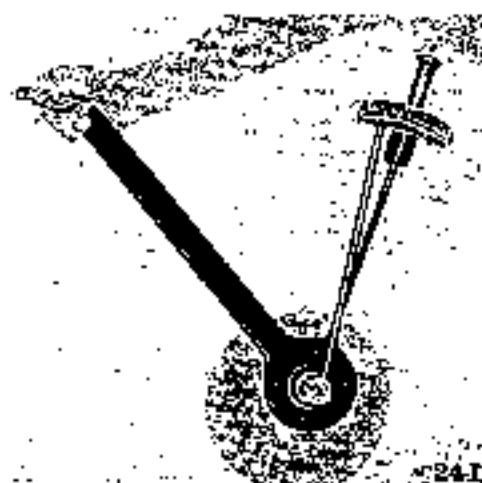

Fig. 7 Use of Drive Pinion Bearing Pre-load Gauge
Tighten up the pinion nut by turning it slowly with hands with the use of pre-load gauge as Fig. 7 to the degree that support the bearing pre-load at 7-10 kg/cm.
- (5) The formal adjustment of the drive pinion, bearing and preload. After the fixing position of drive pinion is decided as mentioned in the previous paragraph, take off the pinion nut & companion flange to mount again the drive pinion bearing spacer (distance piece) and nut. Tighten up the nut as Fig. 7 by using the torque wrench at the regular torque of 100-120 ft/lbs (1400-1680 kg-cm). The preload supported by the bearing in this case is different according to the condition of the bearing adjusting shim inserted. The more of the shim inserted, much the play of pinion to the direction of axle is increased.